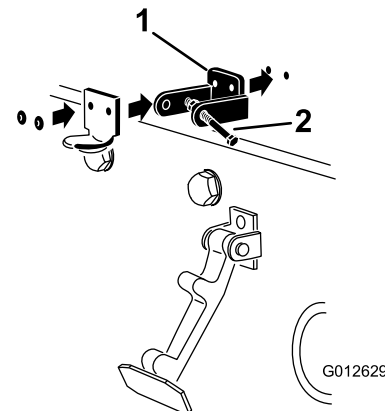

**Figure 6**
2. Remove the (2) rivets securing the hood latch bracket to the hood (Figure 6).